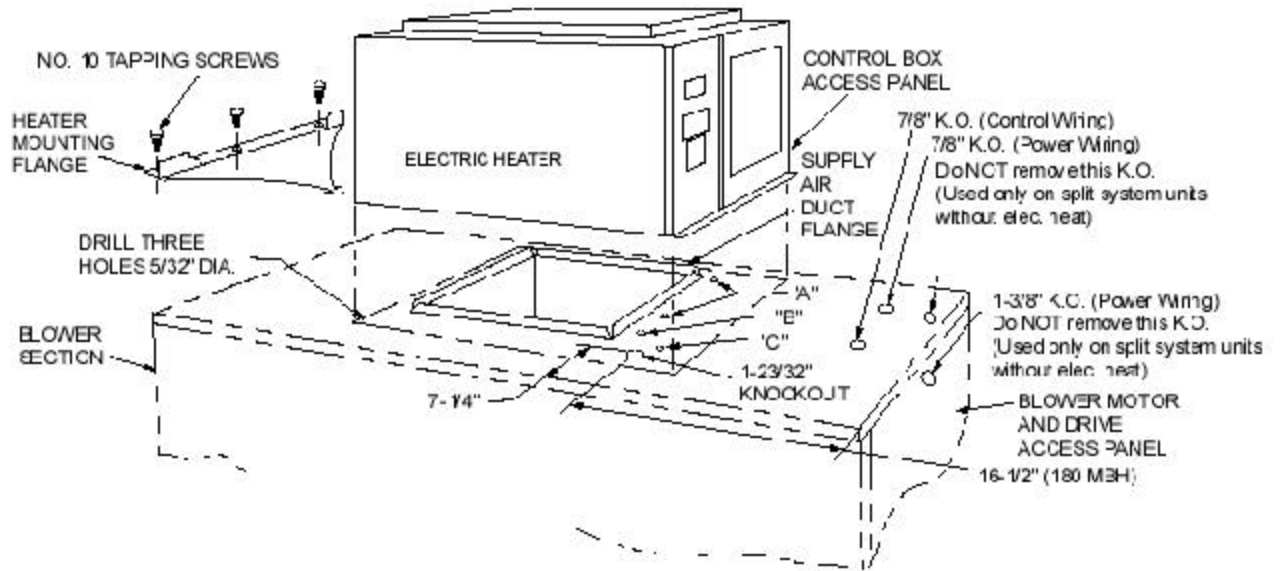

FIGURE 1: HEATER INSTALLATION FOR 15 TON DISCHARGE
Install these electric heat accessories per the following step-by-step procedures and the illustration shown in Figure 1 and 2.
5. Remove the 1-23/32" knockout from the top of the indoor unit. Refer to Figure 1 for its exact location.
7. Set the heater cabinet on top of the unit as shown in Figure 1 or 2. Route its wiring harness through the knockout removed per step 5 .
the indoor unit. (See Figure 1 for its location.) Connect these wires to terminal block 4TB per the field wiring diagram.
Remove the 7/8" knockout for control wiring from the top panel of the indoor unit. (See Figure 1 for its location.) Add a 1/2" strain relief bushing (field supplied) to this opening, route the control wires from the thermostat and the outdoor unit through this bushing, connect them to terminal block 4TB per the field wiring diagram, and tighten the bushing to secure the control wiring to the unit.
Remove the 7/8" knockout for control wiring from the top panel of the indoor unit. (See Figure 1 for its location.) Add a 1/2" strain relief bushing (field supplied) to this opening and to the 7/8" opening in the rear of the plenum.